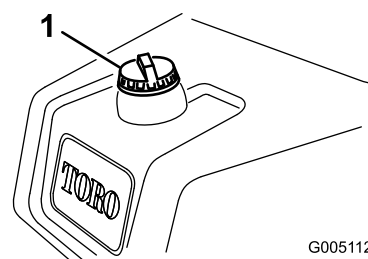

Figure 19
- Clean around the fuel tank cap and remove it (Figure 19).